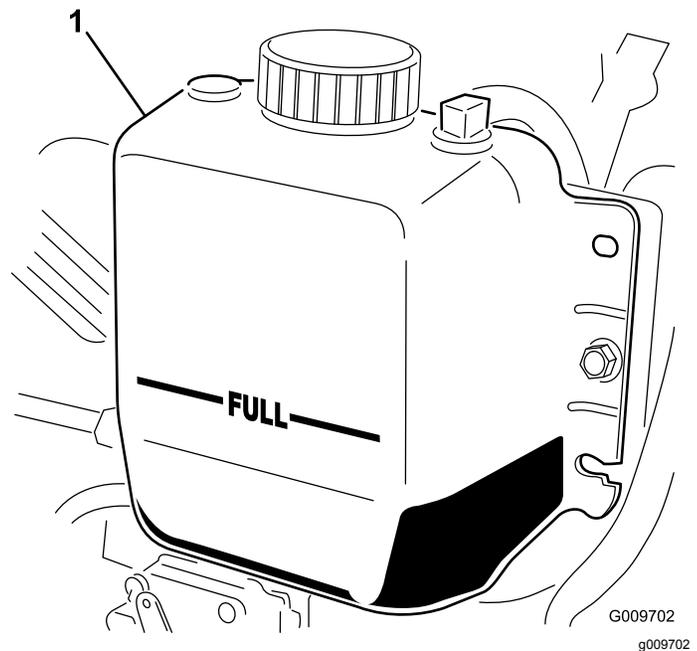

Figure 90
2. Check the coolant level in the radiator. The radiator should be filled to the top of the filler neck and the expansion tank filled to the FULL mark (Figure 90).